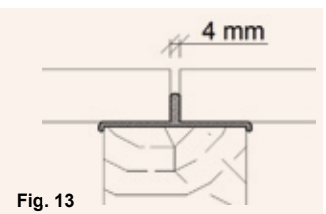

Fig. 13
**VMG Lignum Board | Floor Regular** are laid with an expansion joint of 4 mm for a panel width > 1 m (Fig. 13).
**VMG Lignum Board | Floor T&G2** are laid with an expansion joint of 4 mm for a panel width > 1 m (Fig. 13).